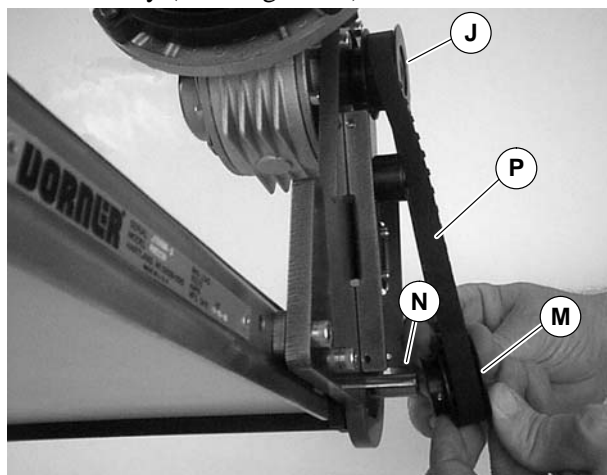

Figure 15
7. Install key (N of Figure 15).